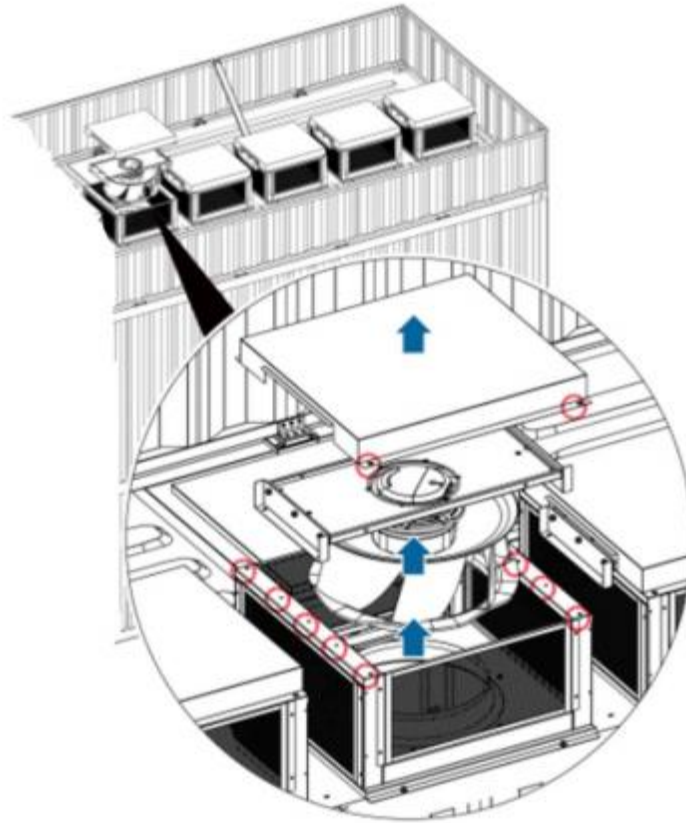

Figure 10.3 Outdoor fan removal
Outdoor fan removal and replacement are as shown in Figure 10.3.
Step 3 Remove screws around the fan base and remove the fan as shown in Figure 10.3.